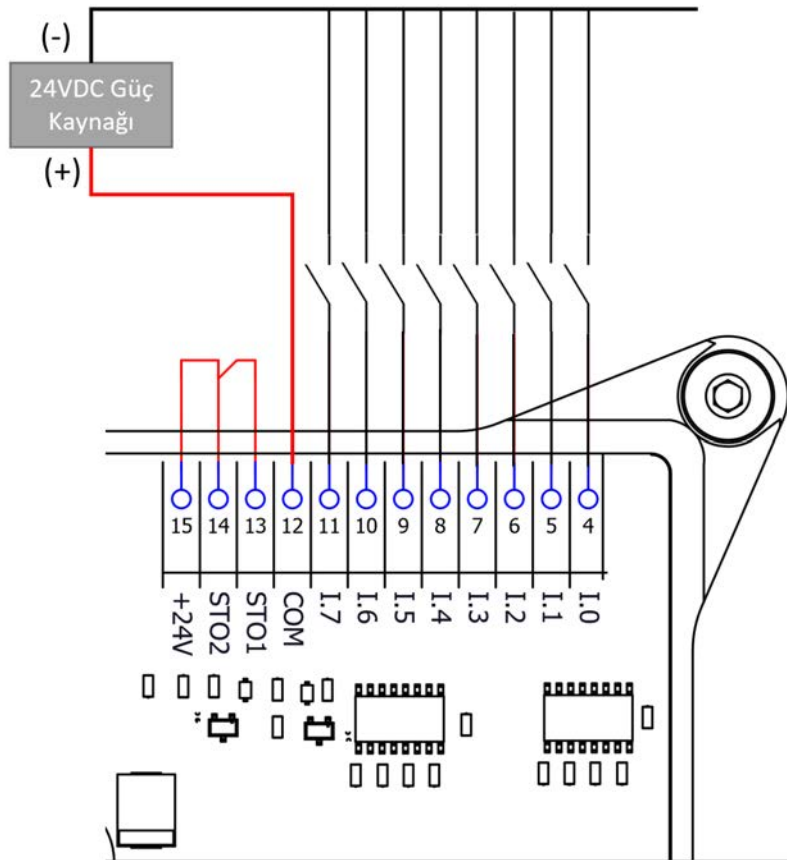

Figure.9
3.2.2.2. NPN / Current Sinking (Sink) Type Device Connection (Figure 9)
- **Connection Details (According to Figure 9):**